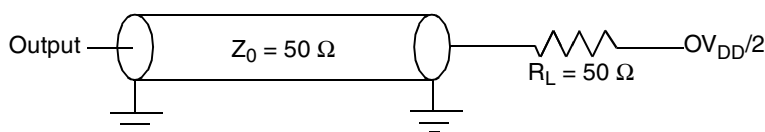

Figure 22. Local Bus C Test Load
Figure 22 provides the AC test load for the local bus.
- All outputs are measured from the midpoint voltage of the falling/rising edge of t_{CLK} to the midpoint of the signal in question. The output timings are measured at the pins. All output timings assume a purely resistive 50-Ω load (see Figure 22). Time-of-flight delays must be added for trace lengths, vias, and connectors in the system.
- The symbols used for timing specifications herein follow the pattern of $t_{(first\ two\ letters\ of\ functional\ block)(signal)(state)\ (reference)(state)}$ for inputs and $t_{(first\ two\ letters\ of\ functional\ block)(reference)(state)(signal)(state)}$ for outputs. For example, t_{JTDVKH} symbolizes JTAG device timing (JT) with respect to the time data input signals (D) reaching the valid state (V) relative to the t_{JTG} clock reference (K) going to the high (H) state or setup time. Also, t_{JTDXKH} symbolizes JTAG timing (JT) with respect to the time data input signals (D) went invalid (X) relative to the t_{JTG} clock reference (K) going to the high (H) state. Note that, in general, the clock reference symbol representation is based on three letters representing the clock of a particular functional. For rise and fall times, the latter convention is used with the appropriate letter: R (rise) or F (fall).